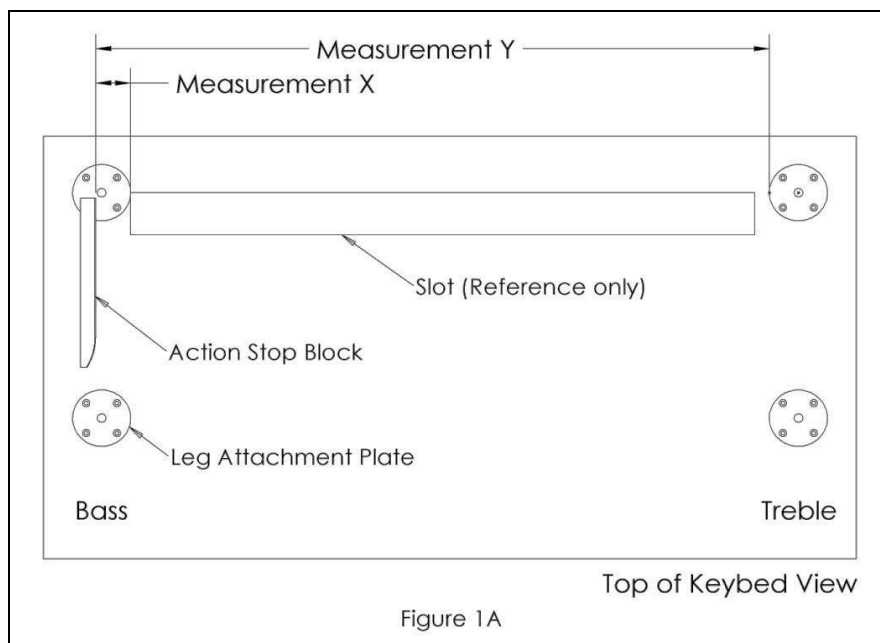
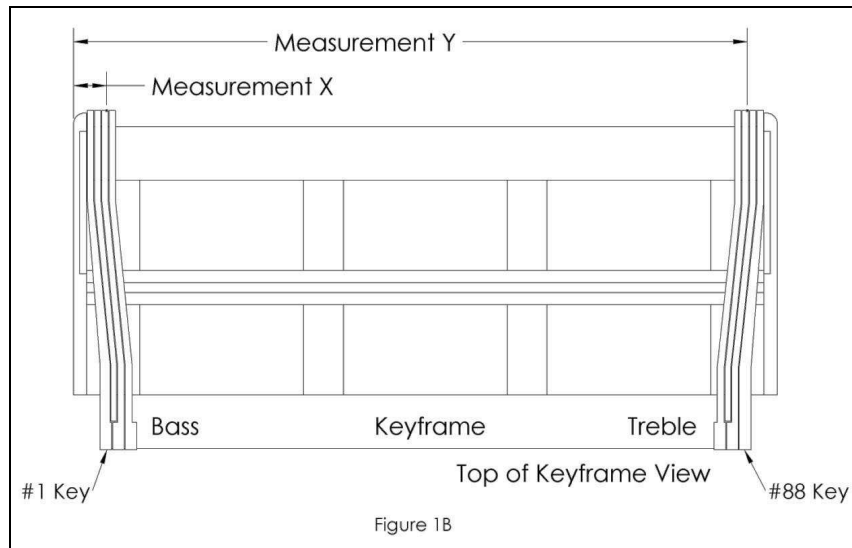

Figure 1A
Figure 1B
- Measure from the Action Stop Block to the treble side of the Leg Bolt Plate. This measurement should be taken parallel to the front of the keybed. This is measurement "X" in Figure 1A. Transfer this measurement to the keyframe. See Figure 1B.
- Measure from the Action Stop Block to the bass side of the treble Leg Bolt Plate. Again this measurement should be taken parallel to the front of the keybed. This is measurement "Y" in Figure 1A. Transfer this measurement to the keyframe. See Figure 1B.